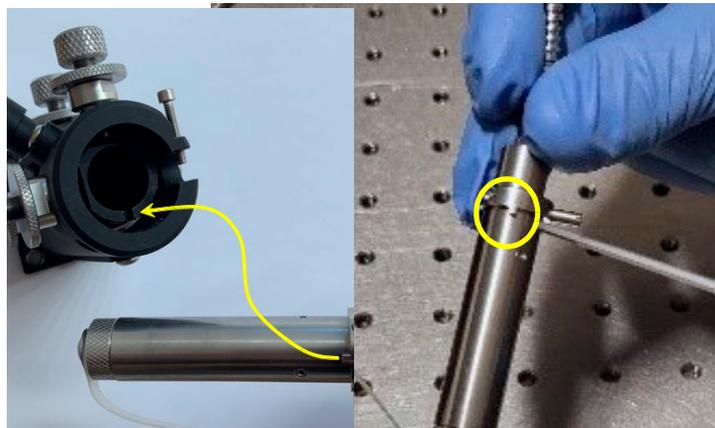

Figure 4-38. Alignment Key and Launcher Input Slot and Key Locations
6. Locate the alignment key on the fiber head that is made to match with the alignment slot in the launcher. Refer to Figure 4-38.